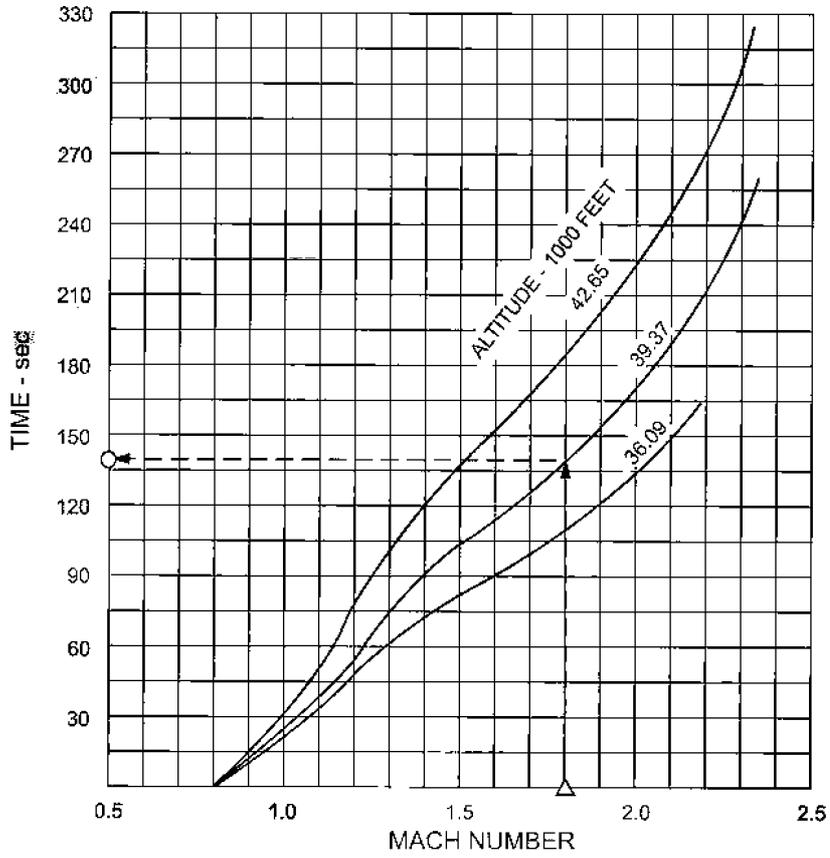
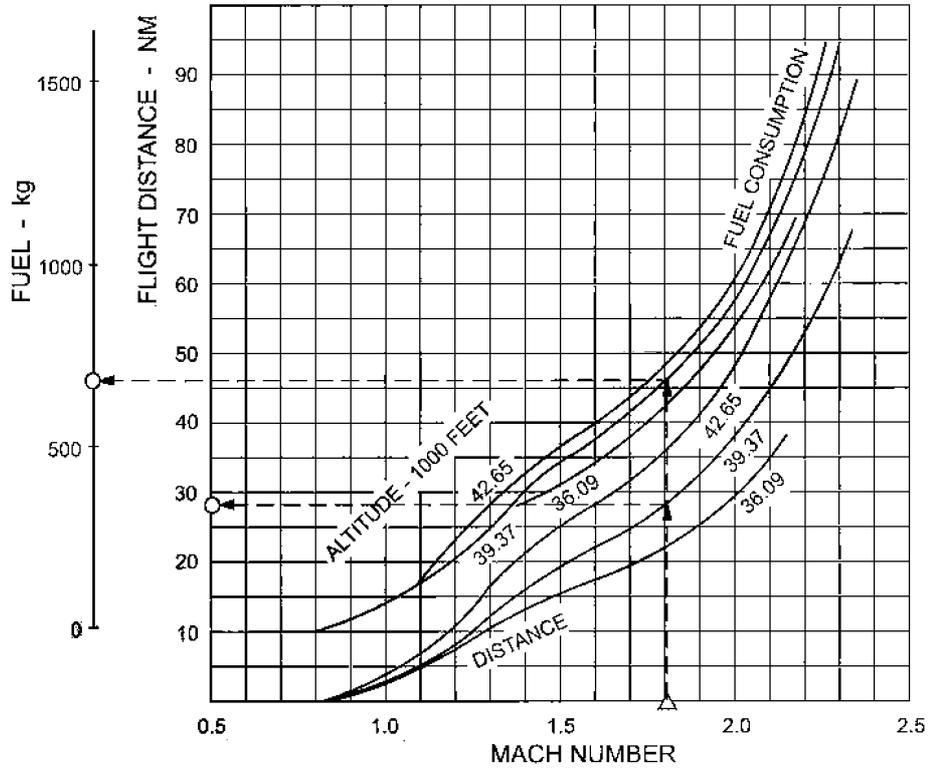

Figure A5-3
Figure A5-4
These charts present data for high altitude acceleration at an entry speed of Mach 0.8. To obtain the time refer to figure A5-3, for distance and fuel refer to figure A5-4.
Enter the chart in figure A5-3 with final indicated airspeed (A), proceed vertically upwards to intersect the pressure altitude (B) and project horizontally left to the baseline to read time (C).
To obtain the required distance enter the chart in figure A5-4 with the final indicated airspeed (A), proceed vertically upwards to the pressure altitude